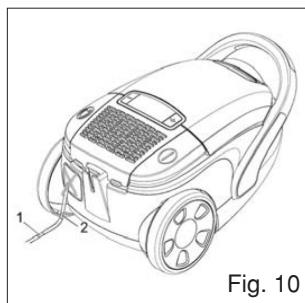
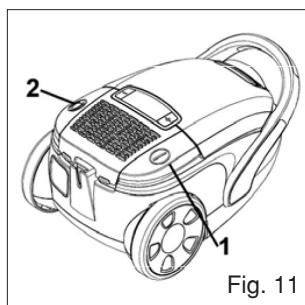

Fig. 10
Fig. 11
2) Pull out the cord until the yellow mark is visible (Fig. 10/1).
If the red marking shows (Fig. 10/2) retract the cord by pressing the retract button to pull in the cable (Fig. 11/2) up to the yellow mark again.
3) Switch on the vacuum cleaner with the on/off switch (Fig. 11/1)
You can increase the suction power by using the “-” (Fig. 10/2) or decrease by using the “+” (Fig. 10/3) buttons.